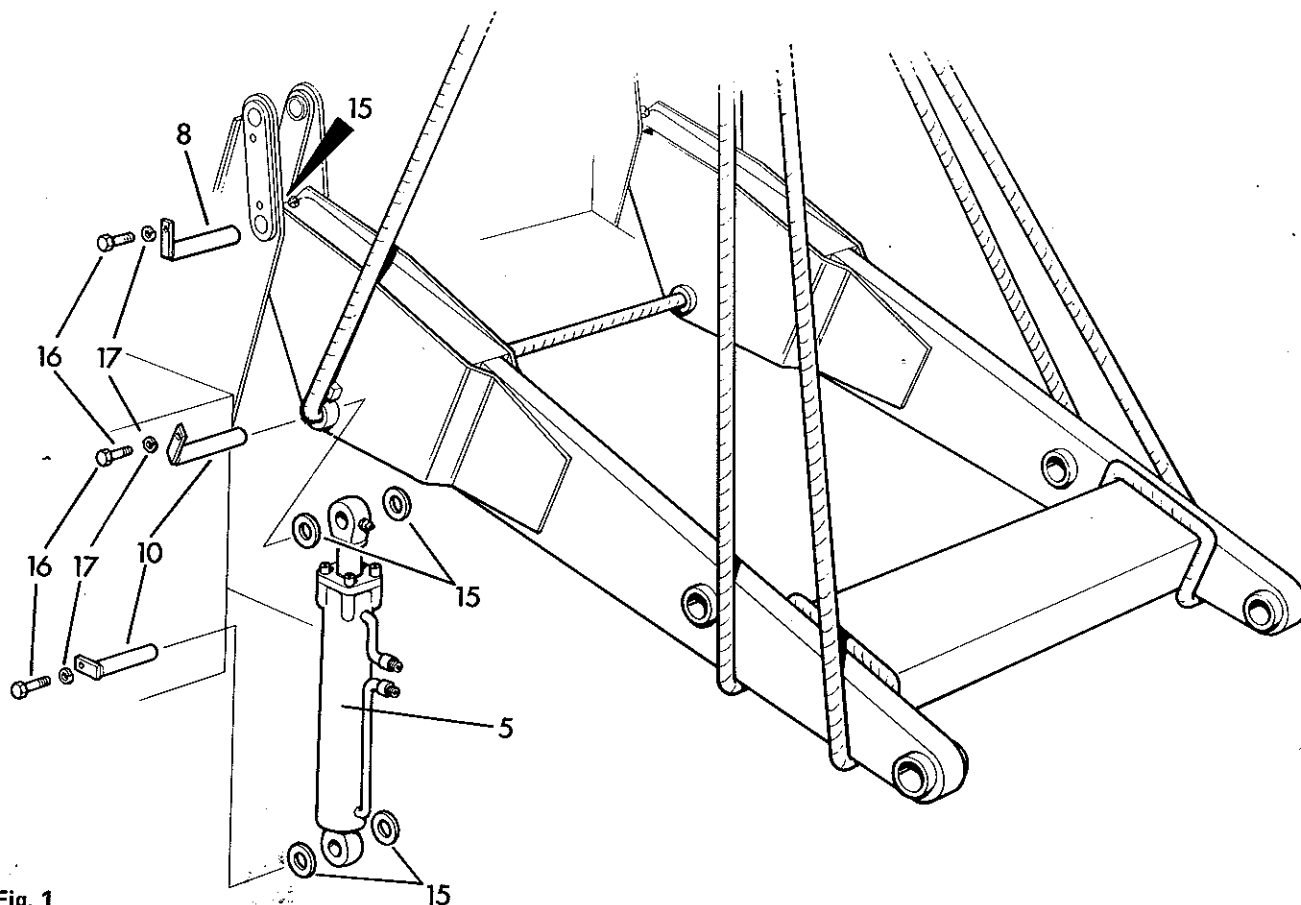

Fig. 1
4. **Loader arms. Support.** (fig. 1) Using suitable lifting gear, take the weight of and support the loader arms.
5. **Lift ram pivot pin. Remove.** (fig. 1) Remove the setscrew (16) and the washer (17) from the pivot pin (10), in two locations. Using a hammer and suitable drift remove the pin and collect any washers (15).
9. **Lift ram hoses. Disconnect.** (fig. 1) Disconnect two hoses on each ram (5), and fit blanking caps.
10. **Lift ram pivot pin, rod eye end. Remove.** (fig. 1) Remove the setscrew (16), and the washer (17) from the pivot pin (10) in two locations. Using a hammer and suitable drift, remove the pin, and collect any washers (15).
12. **Loader arm pivot pins. Remove.** (fig. 1) From two locations, remove the setscrew (16) and the washer (17)
13. **Loader arm. Remove.** (fig. 1) With lifting gear, gently raise the loader arm from the pivot points, until it is clear of the machine.